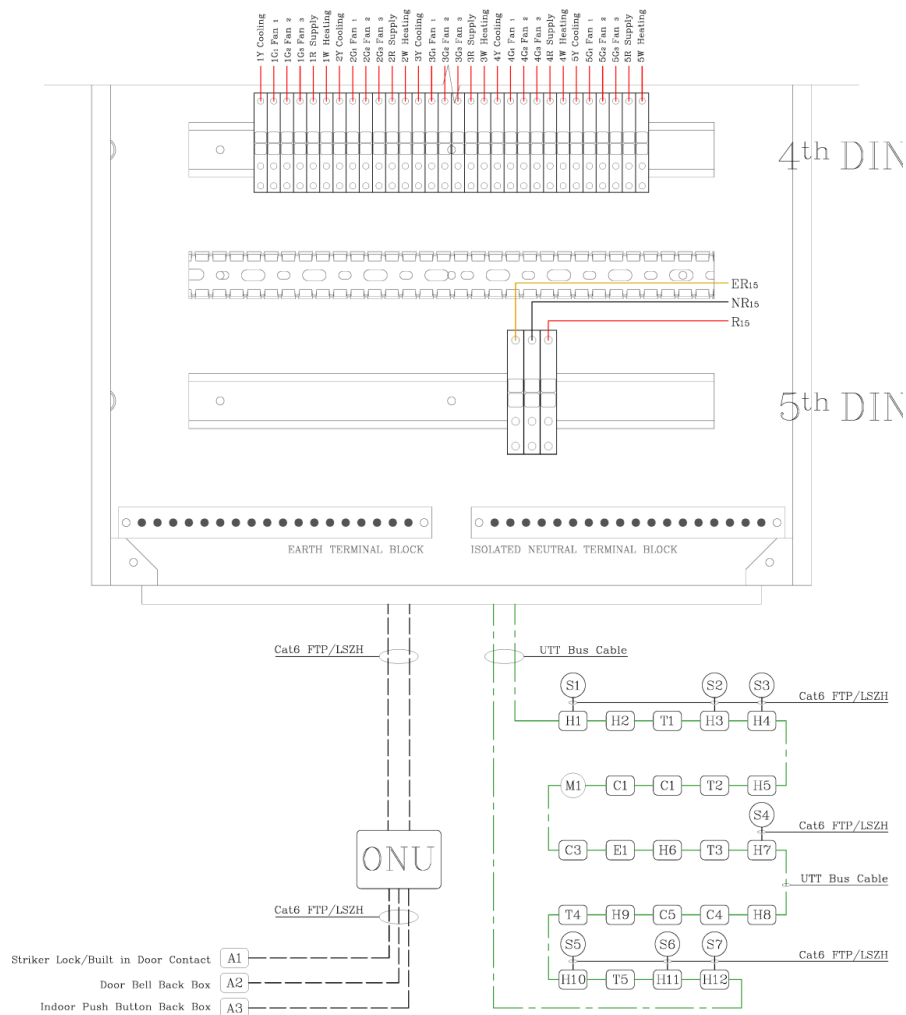

Figure 1.2.5: 4th and 5th Din rail Schematic Diagram
- 1 No. 25 mm conduit should be provided between the ADP and the ONU. It should enter the ADP and the ONU from the bottom center portion only as shown in Figure 1.2.5.
- A dedicated 220V surge protected breaker should be connected to the power supply of the gateway located at the last rail of the ADP as shown in Figure 1.2.5.